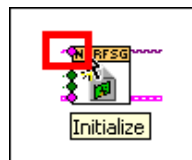

Figure 2: Resource Name Terminal on niRFSG Initialize VI
6. Hover the cursor over the **resource name** terminal on the niRFSG Initialize VI and right-click. Select **Create»Control** to create a front panel field where you specify the NI 5670 device name. The **resource name** terminal is highlighted in Figure 2 below.